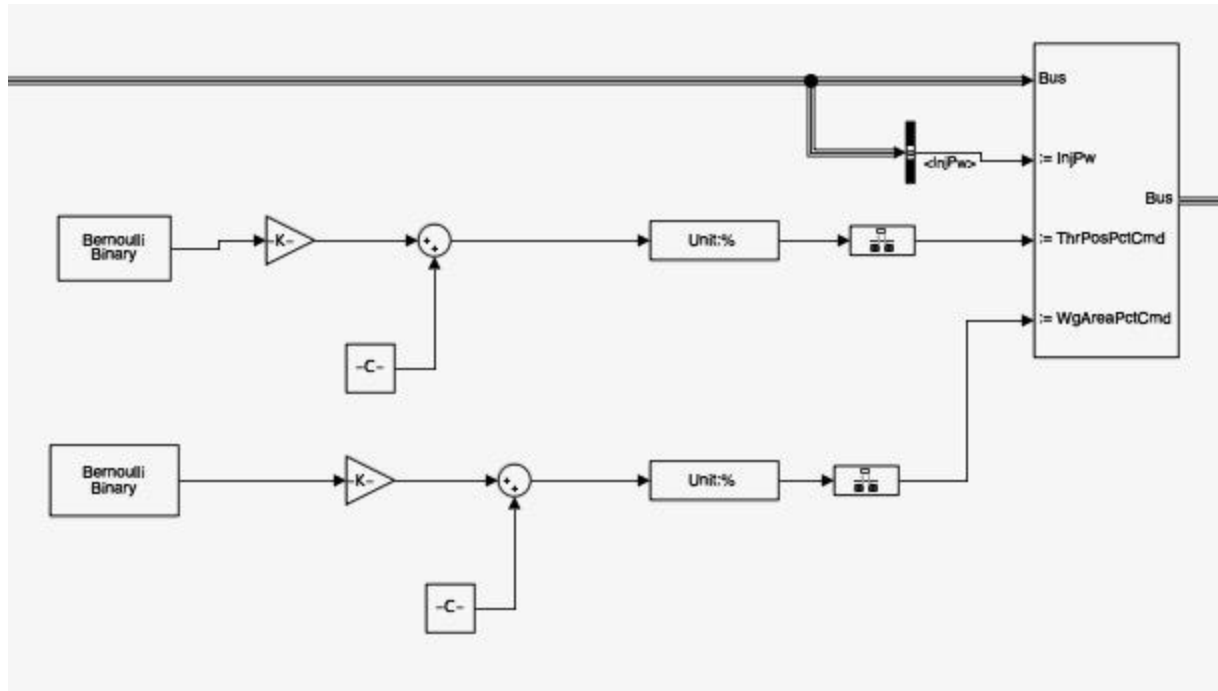

Figure 3: Bernoulli Binary Generator Implementation
- Note: Figure 3 above appears to have two different PRBS signals, one going into the throttle command and one going into the wastegate command, but one should be set to wide open (100%) with no wiggle, while a PRBS will be sent into the other actuator (i.e. throttle or wastegate). These values can be changed in the RunMe.m script (ThrB, ThrW, WgB, and WgW variables).